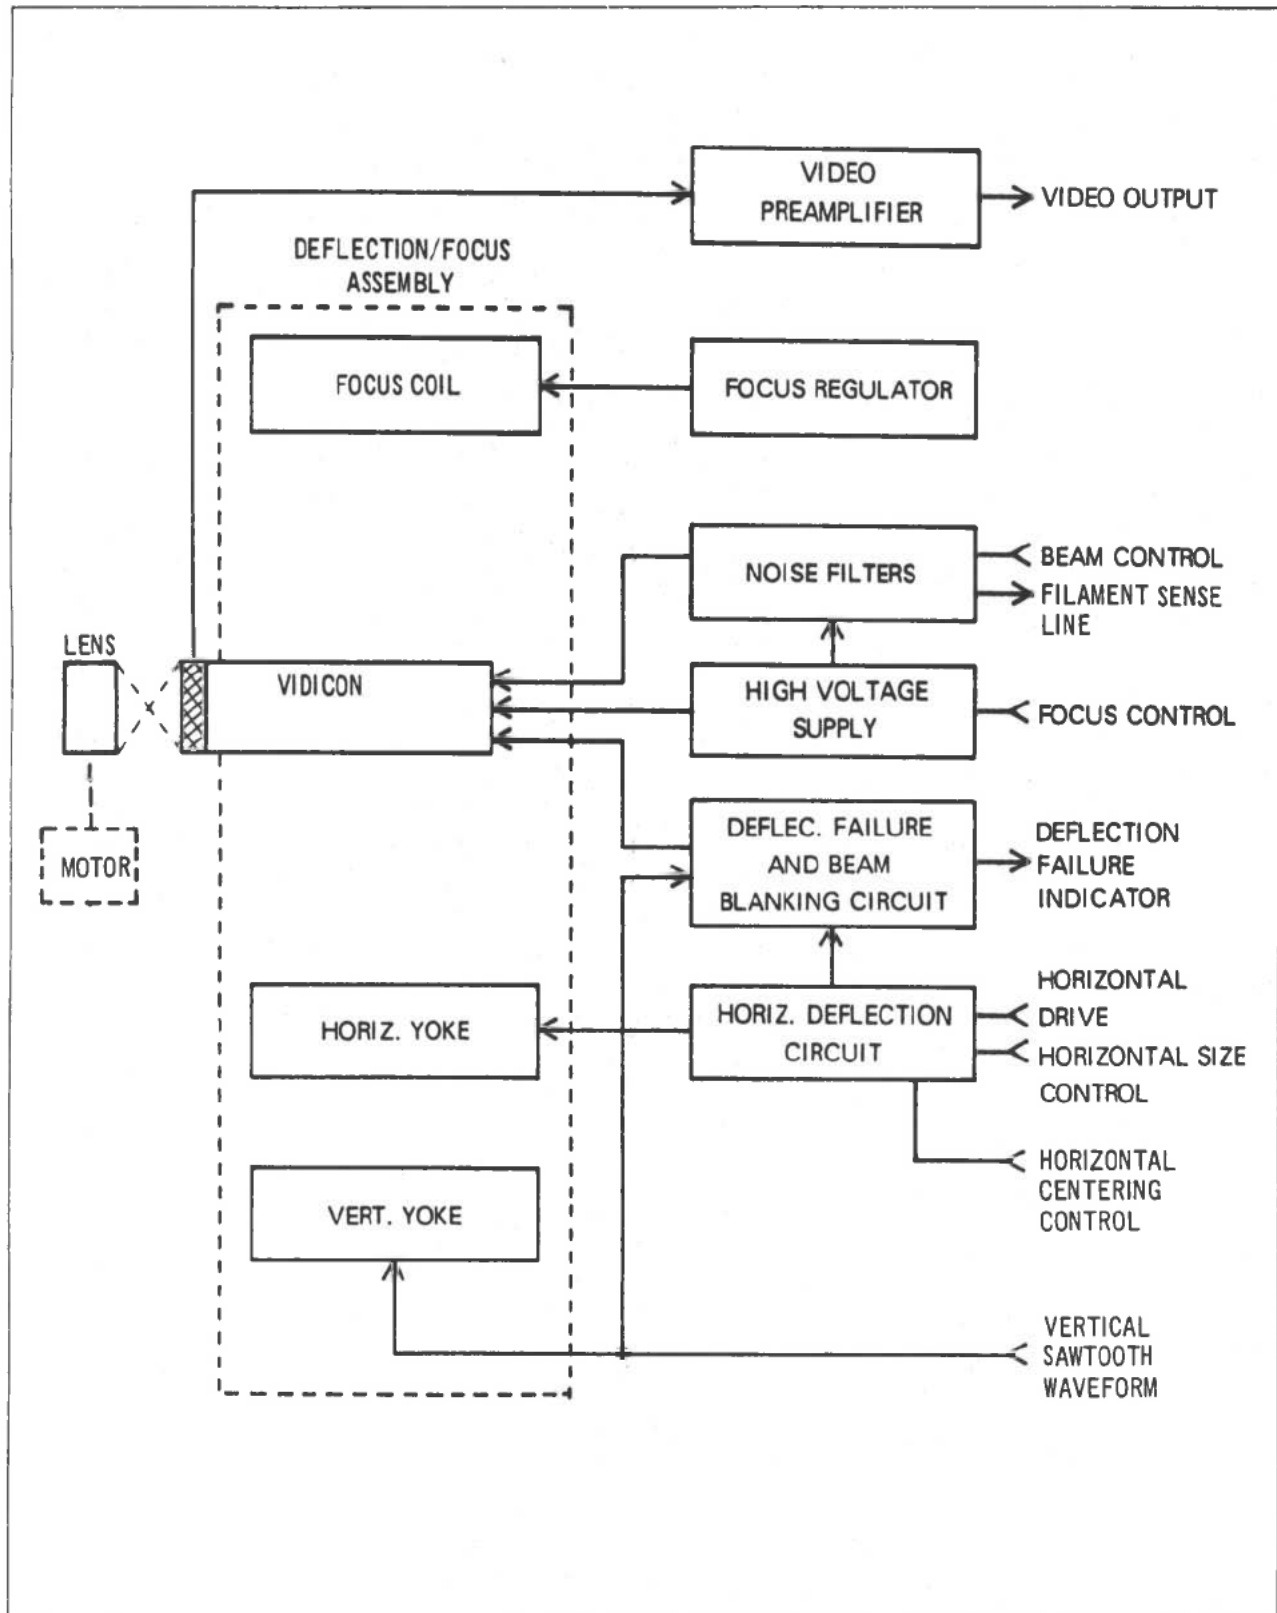

Figure 1-2. Basic Block Diagram, 7120/7210B Series Cameras
The circuits in the 7120/7210B Cameras (see Figure 1-2) include: (1) an image tube that converts visual images into electronic signals; (2) a video preamplifier that converts target signal current from the image tube into a video voltage signal before it is transmitted by cable to the camera control; (3) deflection and focus current generators for coils that produce magnetic fields to deflect and focus the scanning beam in the image tube; (4) noise filters for dc voltage supply lines going to various electrodes at the image tube; (5) blanking and protection circuits that generate pulses or bias voltages for turning off the scanning beam during retrace or for keeping it off to protect the image tube from damage if a deflection circuit fails; and (6) a high-voltage supply that develops dc potentials for two of the electrodes at the image tube.